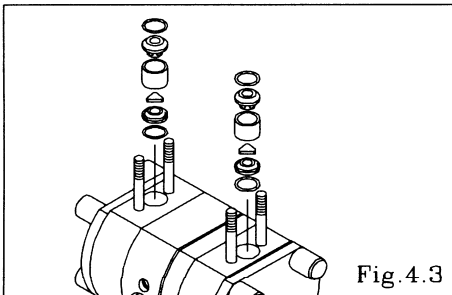

Fig. 4.3
- Remove the O ring, valve stopper, valve guide, ball or flat valve and valve seat. [Fig.4.3]